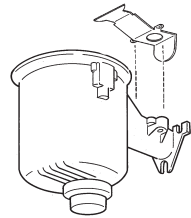

Fig. 1
Step 4: Remove access cover (E) from hardware bag.
Step 7: Attach access cover to the light fixture using 2 access cover mounting screws (H) provided (Fig. 1).